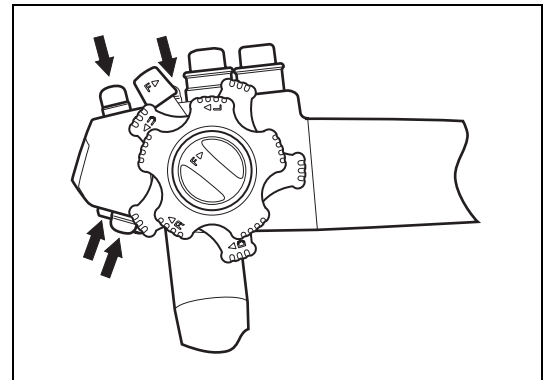

Figure 3.2
- 1 Press each button on the control body of the endoscope and make sure a confirmation tone sounds. (Refer to Figure 3.2.)